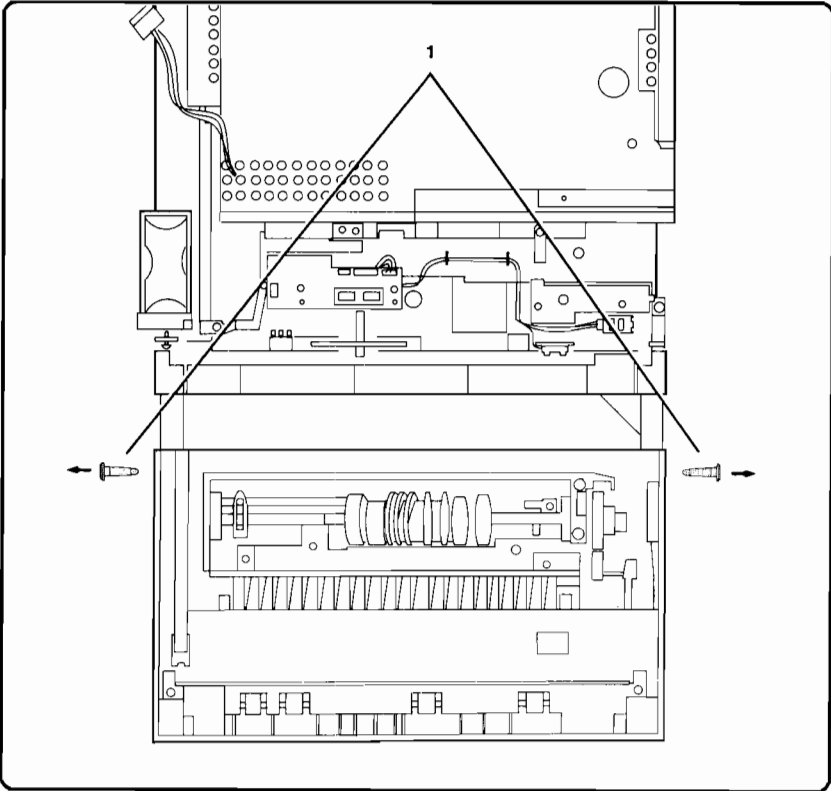

Figure 6-79. Paper Path Door Removal (continued)
14. Hold the Paper Path Door with one hand. With the other hand, remove the (2) Door Hinge Pins using a small flat-head screwdriver to remove the Door (see Figure 6-79, callout 1).